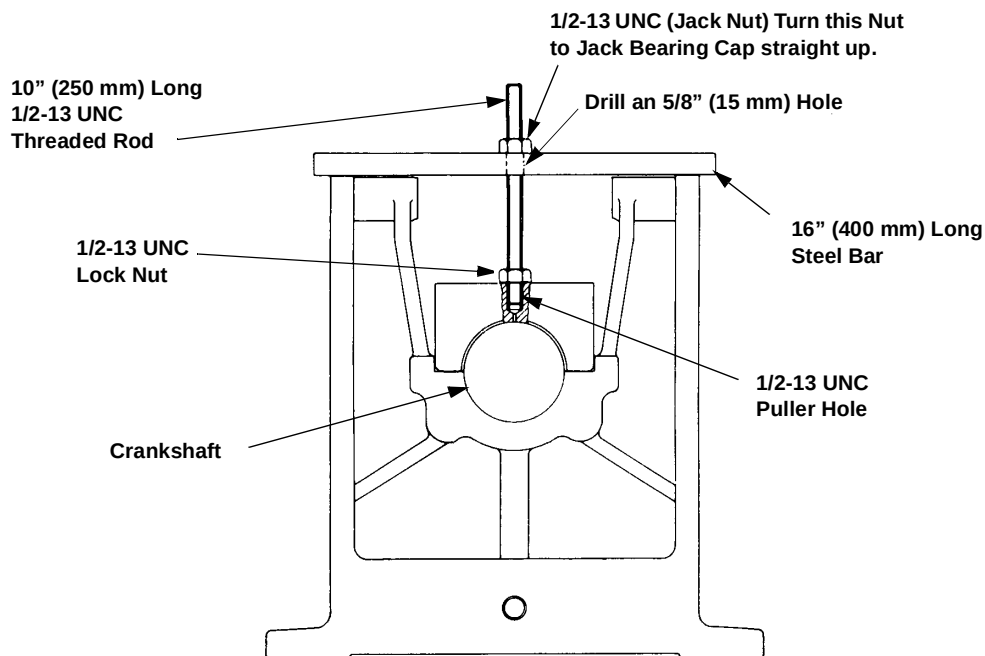

FIGURE 5-5: BEARING CAP PULLER
5. Remove the capscrews from the main bearing caps. Pull the caps straight up to prevent damage to the dowel fit. If the cap is tight, use a Bearing Cap Puller as illustrated in Figure 5-5: For the JGI remove the capscrews in the bearing carrier, remove carrier and slide crankshaft out thru carrier hole to remove it.